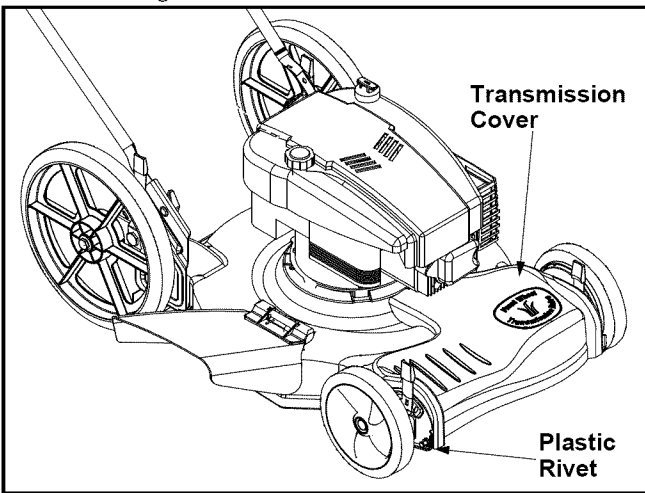

Figure 14
- Remove the transmission cover by sliding off the two plastic rivets with a screwdriver on each side of cover. See Figure 14.